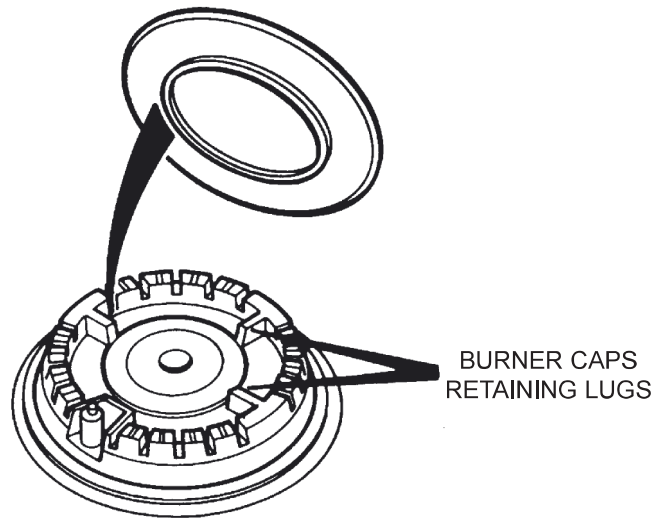

Fig 19A
- After cleaning, be sure all parts are dry. When fitting the burner cap and burner head, make sure that the hole in the burner head is correctly located over the ignition electrode (See Fig. 19A, 19B, 19C), and that the burner cap is sitting correctly on the burner head.